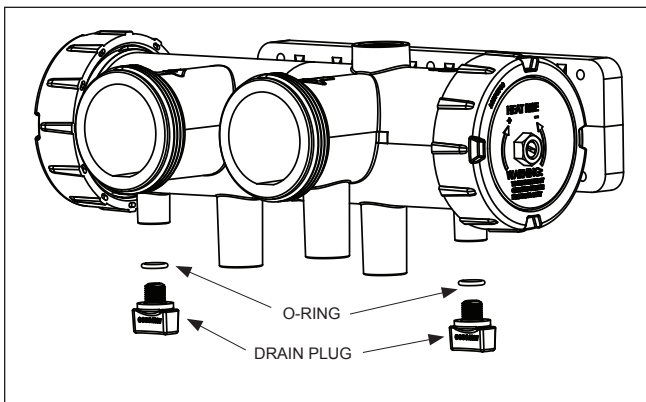

Figure 24. Draining the Heater
4. Remove the drain plugs from the inlet/outlet header (see Figure 24), and completely drain the heater before the first frost.